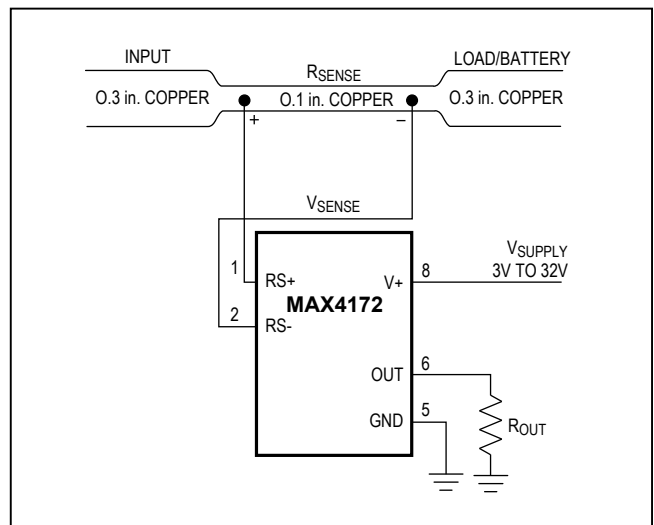

Figure 2. MAX4172 Connections Showing Use of PC Board
- **Cost:** If the cost of R_{SENSE} is an issue, you might want to use an alternative solution, as shown in Figure 2. This solution uses the PCB traces to create a sense resistor. Because of the inaccuracies of the copper resistor, the full-scale current value must be adjusted with a potentiometer. Also, copper’s resistance temperature coefficient is fairly high (approximately 0.4%/°C).
In Figure 2, assume that the load current to be measured is 10A, and that you have determined a 0.3-inch-wide, 2-ounce copper to be appropriate. The resistivity of 0.1-inch-wide, 2-ounce (70μm thickness) copper is 30mΩ/ft. For 10A, you might want R_{SENSE} = 5mΩ for a 50mV drop at full scale. This resistor requires about 2 inches of 0.1-inch-wide copper trace.